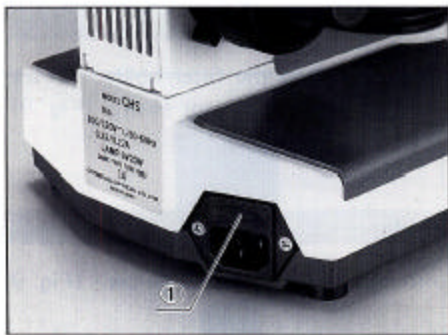

Fig. 13
- 1) The fuse box ① is located at the back of the microscope base. (Fig. 13)
- 2) Disconnect the power cord from the AC outlet, and remove the fuse box ① from the base by means of a screw driver. (Fig. 13)